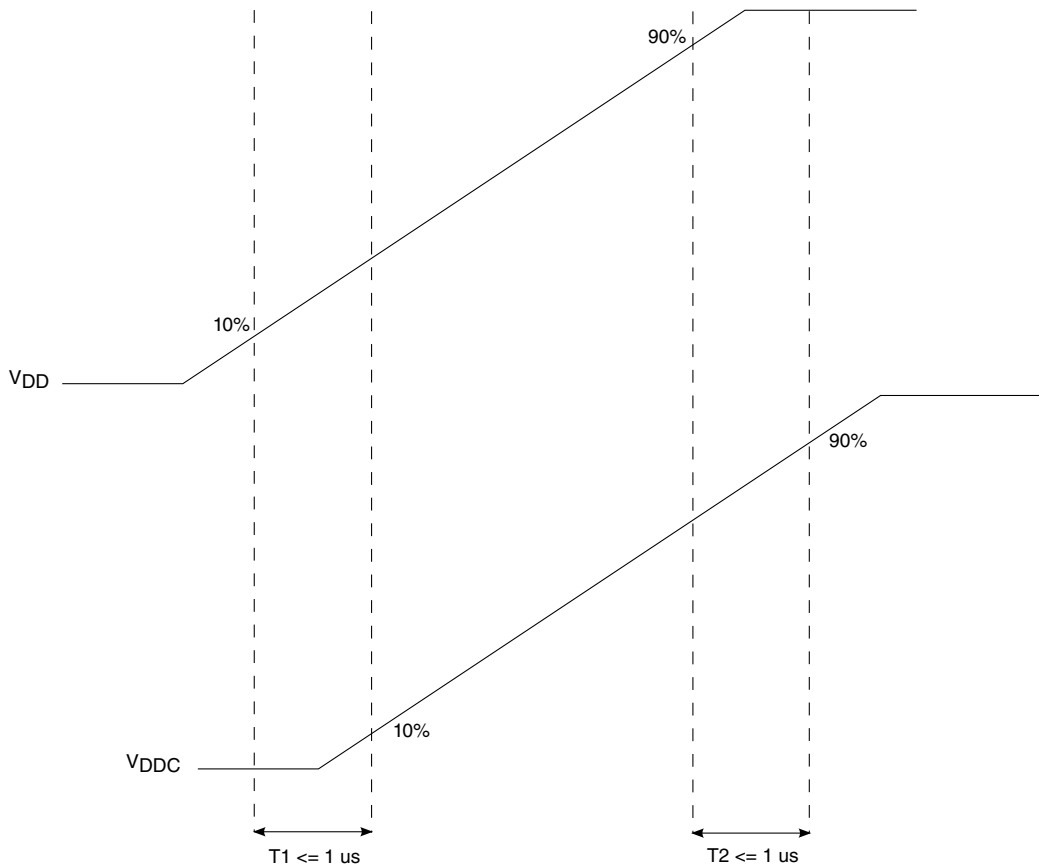

Figure 8. V_{DDC} and V_{DD} ramp-up diagram
2.	When deep sleep mode is used, V_{DDC} should ramp up before V_{DD} . Alternatively, V_{DD} may ramp up together with V_{DDC} provided that the relative timing between V_{DDC} and V_{DD} ramp up conforms to Figure 8 .